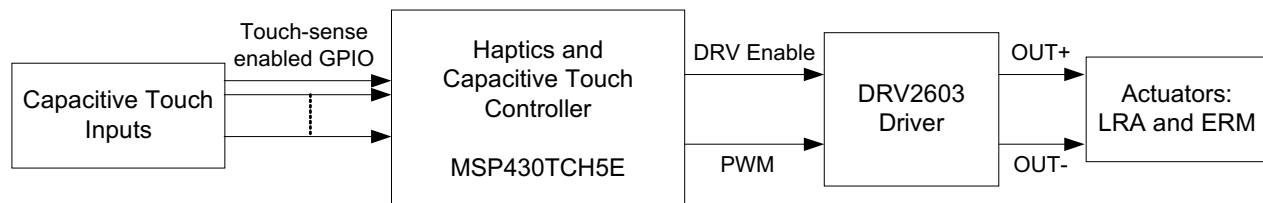

Figure 1. Stand-Alone Application With MSP430TCH5E Device as Haptics and Capacitive Touch Controller
- Touch-enabled devices where the MSP430TCH5E device is used both as haptics and capacitive touch controller. See Figure 1.